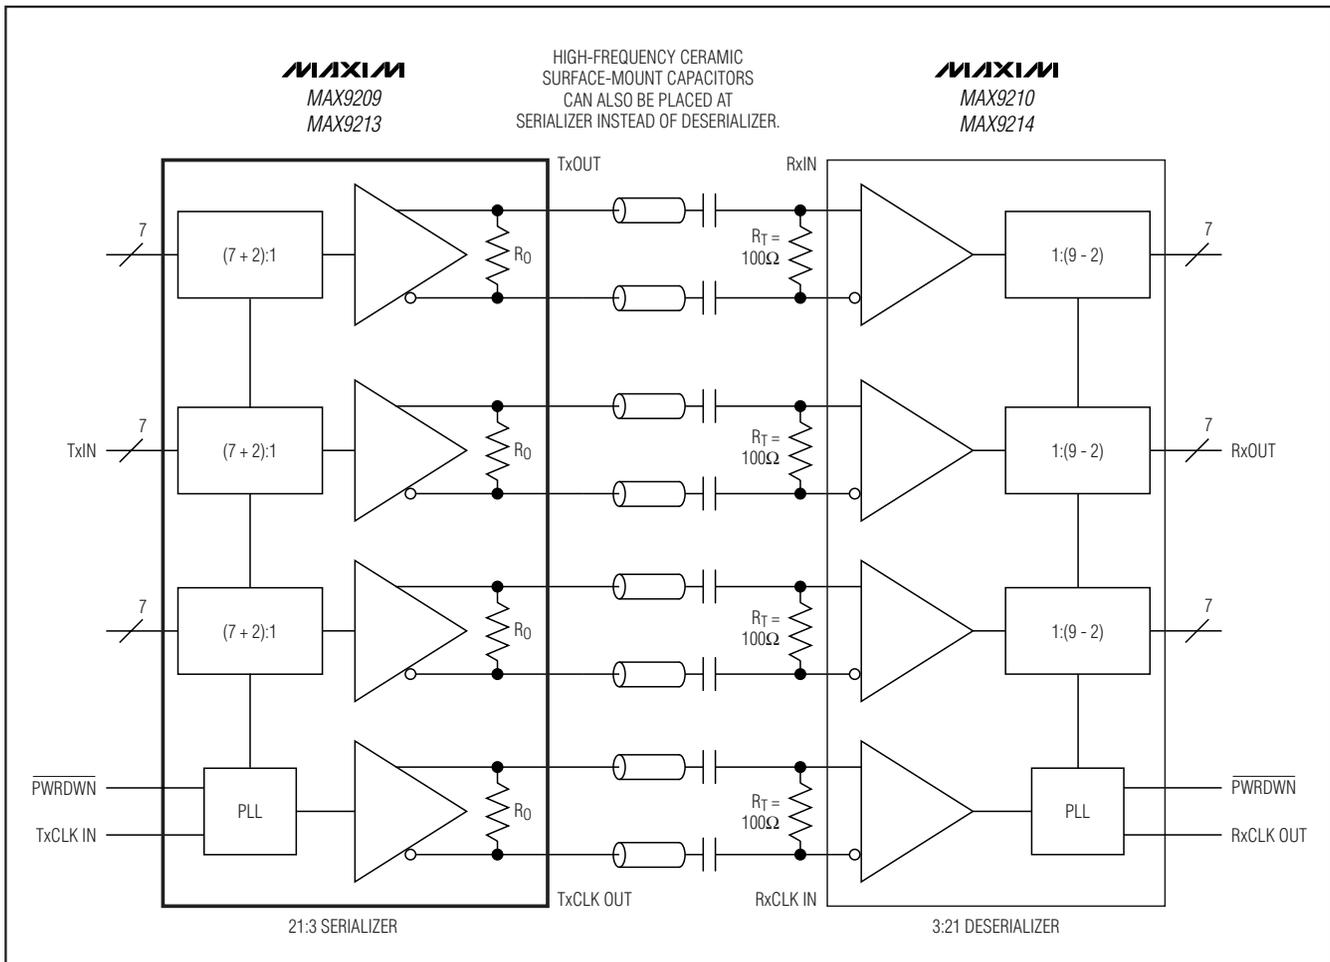
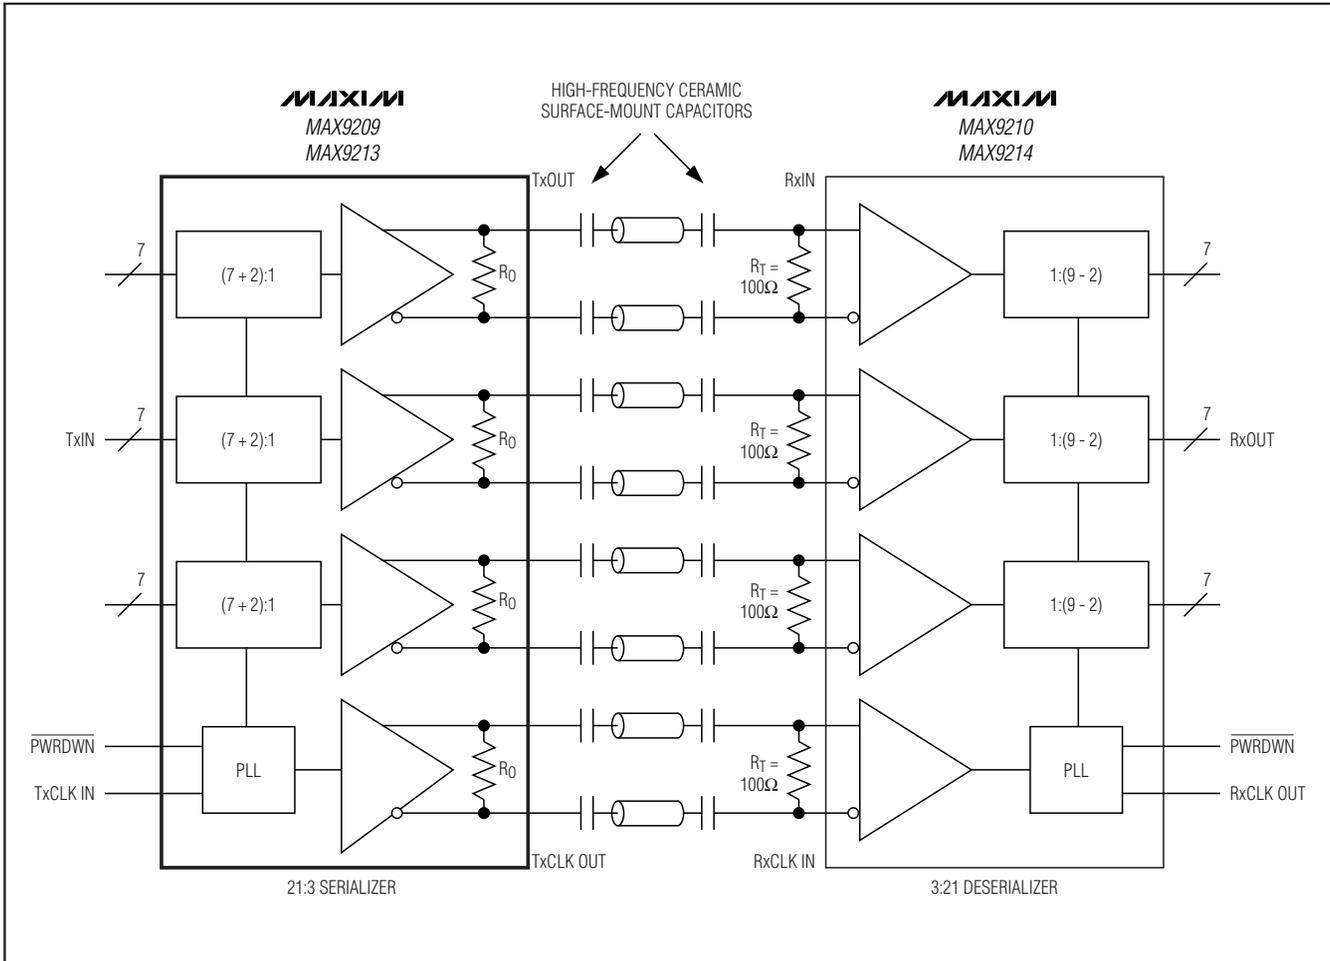

Figure 14. Two Capacitors per Link, AC-Coupled, DC-Balanced Mode
Figure 15. Four Capacitors per Link, AC-Coupled, DC-Balanced Mode
The RC network for an AC-coupled link consists of the LVDS receiver termination resistor (R_T), the LVDS driver output resistor (R_0), and the series AC-coupling capacitors (C). The RC time constant for two equal-value series capacitors is $(C \times (R_T + R_0)) / 2$ (Figure 14). The RC time constant for four equal-value series capacitors is $(C \times (R_T + R_0)) / 4$ (Figure 15).
Equation 1 is for two series capacitors (Figure 14). The bit time (t_B) is the period of the parallel clock divided by 9. The DSV is 10. See equation 3 for four series capacitors (Figure 15).
Equation 1 altered for four series capacitors (Figure 15) is: